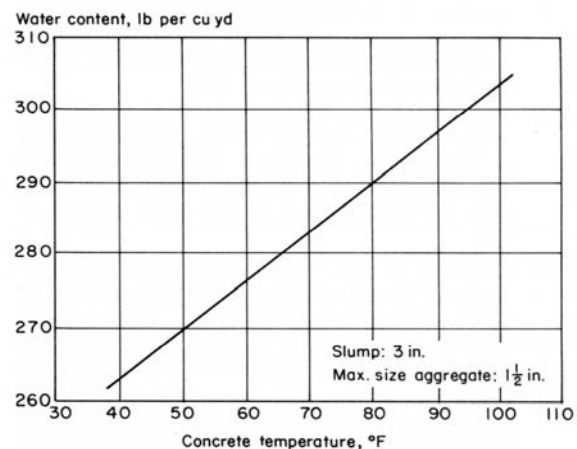

Figure 1 - Effect of concrete temperature on water requirement. Source PCA
- Increased demand for water (see Figure 1)